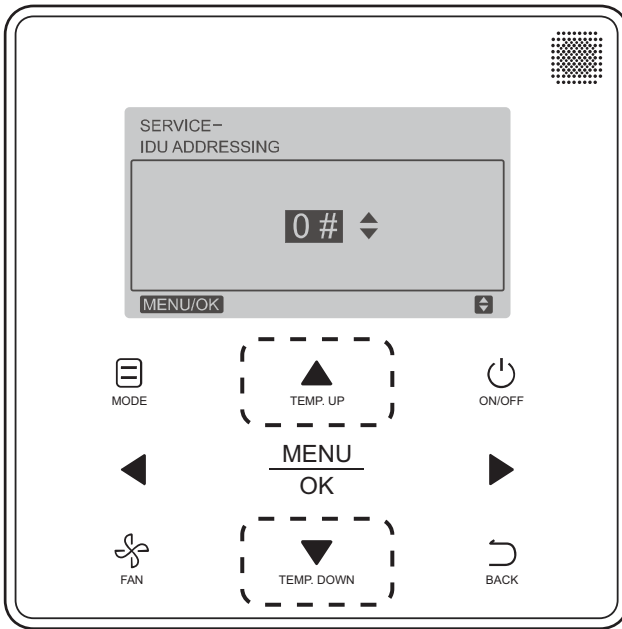

Fig. 26 — Programmable Controller (40VM900003) Setting IDU Address
3. Press **TEMP. UP** or **TEMP. DOWN** to choose the address you want to set, see Fig. 26. Press **MENU/OK** to send this address to the IDU.